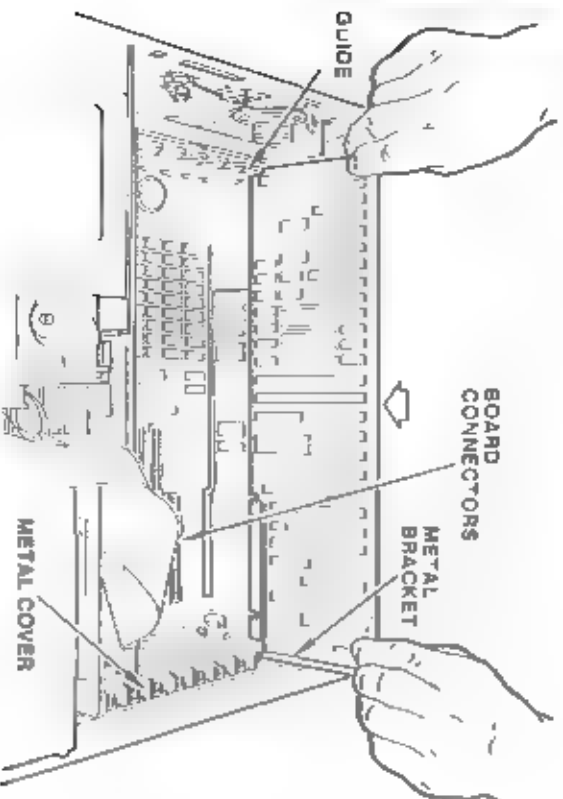

Figure 2-6 Board Handling and Insertion
When you insert or remove a board, hold it only by the edges. Do not touch any of the component parts or wires, since any foreign substance on your fingers might introduce electrical shorts on the board. Figure 2-6 illustrates the recommended method of holding a board.
Figure 2-6 also illustrates the connector panel where the board is attached; the guide for the other end of the board, the system board connectors into which the boards are inserted, and the metal slot covers or the connector panel. The metal slot cover is removed when you install a board.
2. Align the board between the guide on the front of the system unit and the slot on the connector panel on the rear (see Figure 2-6).
4. Lift the board free of the guide (Figure 2-6) and remove it from the system unit.